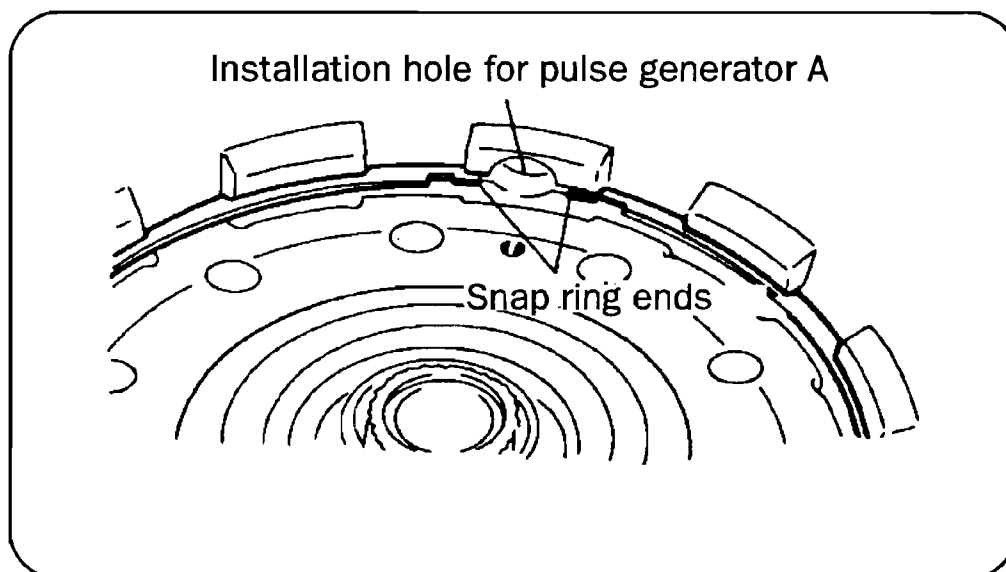

Figure 1
**Correction:** Install the snap-ring so that the open end of the snap-ring faces the entrance hole in the case for pulse generator A. See figure 1 below.